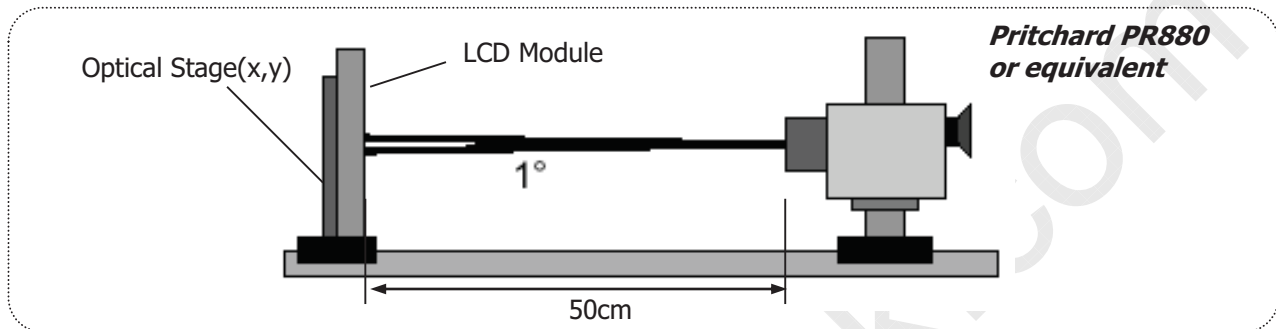

FIG.4-1 Optical Characteristic Measurement Equipment And Method
Optical characteristics are determined after the unit has been 'ON' for approximately 30 minutes in a dark environment at $25 \pm 2^\circ\text{C}$. The values specified are at an approximate distance 50cm from the LCD surface at a viewing angle of Φ and θ equal to 0° and aperture 1 degree. FIG.4-1 presents additional information concerning the measurement equipment and method.
- 2) **Surface Luminance(L_{WH})** is the luminance value at center 1 point(1) across the LCD surface 50cm from the surface with all pixels displaying white. For more information see FIG.4-1. **(By PR880)**